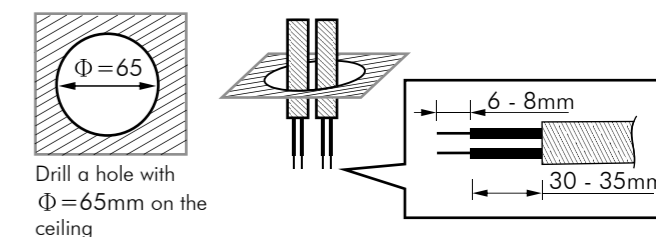

FIG.9
3.4.2.1 To install detector, please drill a hole with diameter of 65mm on ceiling board and keep the power cable outside. Please strip off 6 - 8mm of cable sheathing for wiring (See FIG.9).